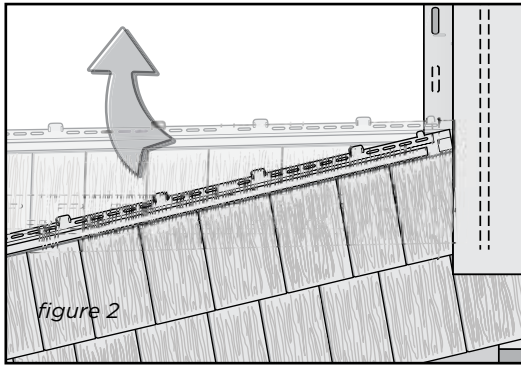

figure 2
2. Starting on the right side of the wall, hook the bottom locking leg of the panel into the starter strip and slide the panel into the cornerpost or receiving channel (figure 2). Leave 1/4" space between the panel and the corner for expansion. If you are planning to install the Mitered Cornerpost, space the panel 3" from the corner.